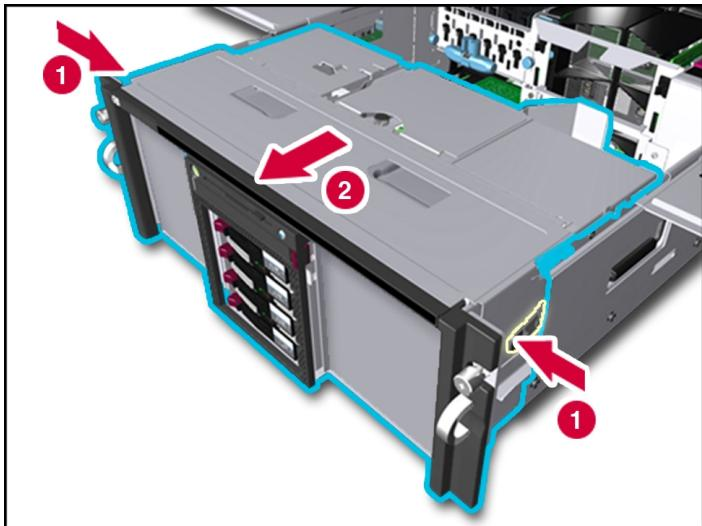

Figure 3-9: Removing the power and media module
9. Press in on the module stop latches (1) and pull the module out of the chassis (2), as shown in Figure 3-9.